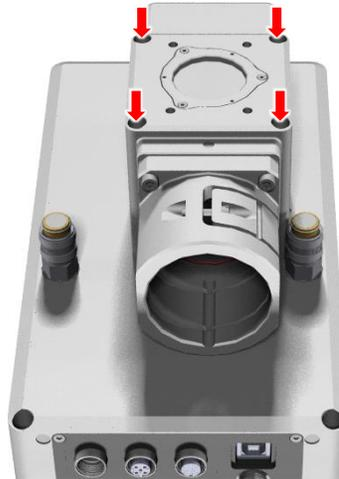

Figure 7: Dismounting the Laser Interface Adapter (LIA) from the scan head
3. Dismount the Laser Interface Adapter (LIA) from the scan head by loosening these screws; see Figure 7 on page 19.